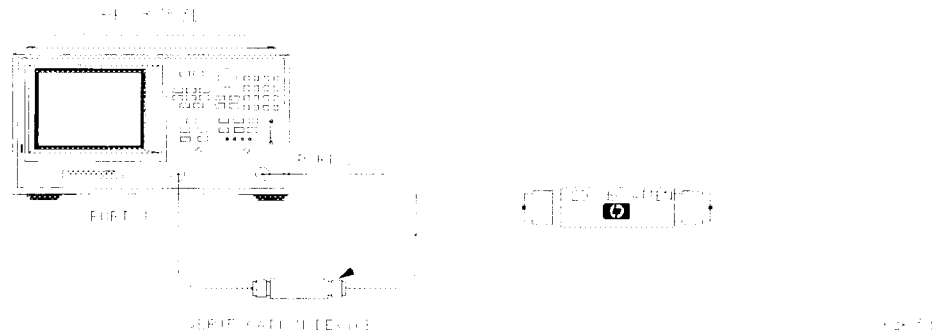

Figure 2-4. Connections for the 20 dB Verification Device
- 2 At the prompt, connect the 20 dB attenuator (supplied in the verification kit) as shown in Figure 2-4.